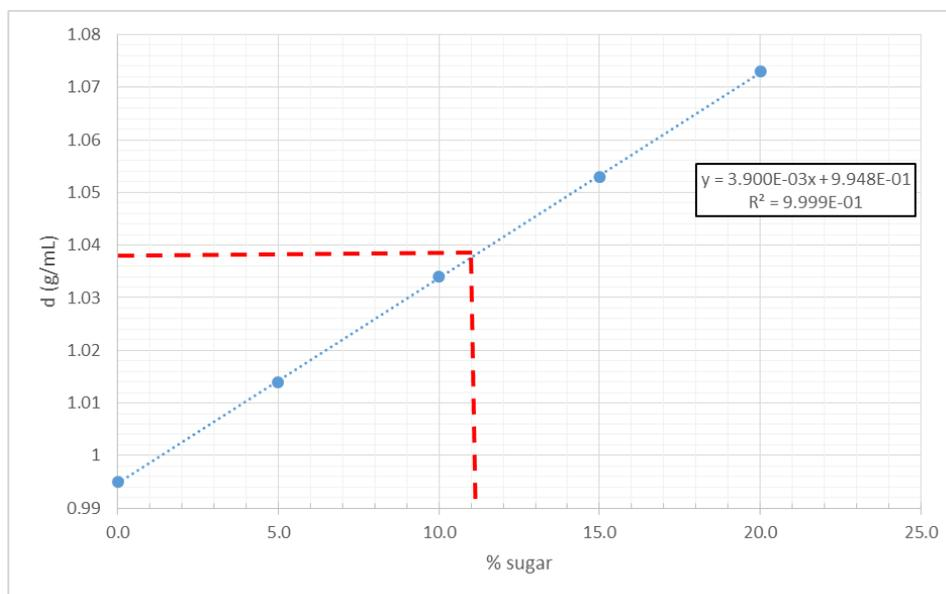

Figure 2.3 Sample standard curve
3. S/he obtained a calibration (standard) curve using the standards in the table above (see Figure 2.3). S/he then looked up what % sugar the 1.038 g/mL corresponds to, which turned out to be 11.1 %.